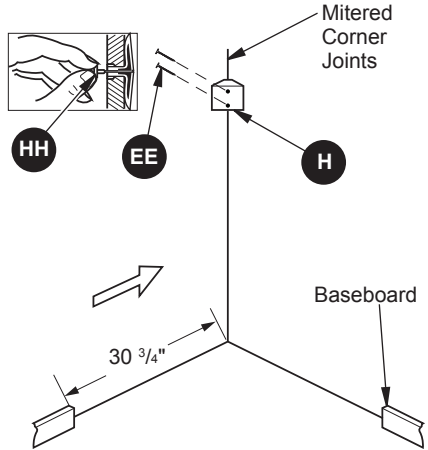

Figure 42
14. Install the Set Square Support (H) to the holes drilled in step 13, with 2) ST5 Screws 2 3/8" (EE) as shown in Figure 42. This block is used to support the Top Triangle Panel (F). For thin walls, insert white key (HH) into wall anchor and push to "pop" open anchor wings.